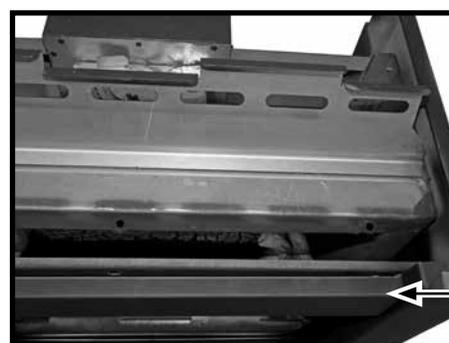

Figure 41: TN24 glass door frame.
2. Remove the wing bolts (Figure 40) holding the glass door retainer frame to the gas stove frame and tilt the glass door (Figure 41) so that it can be removed